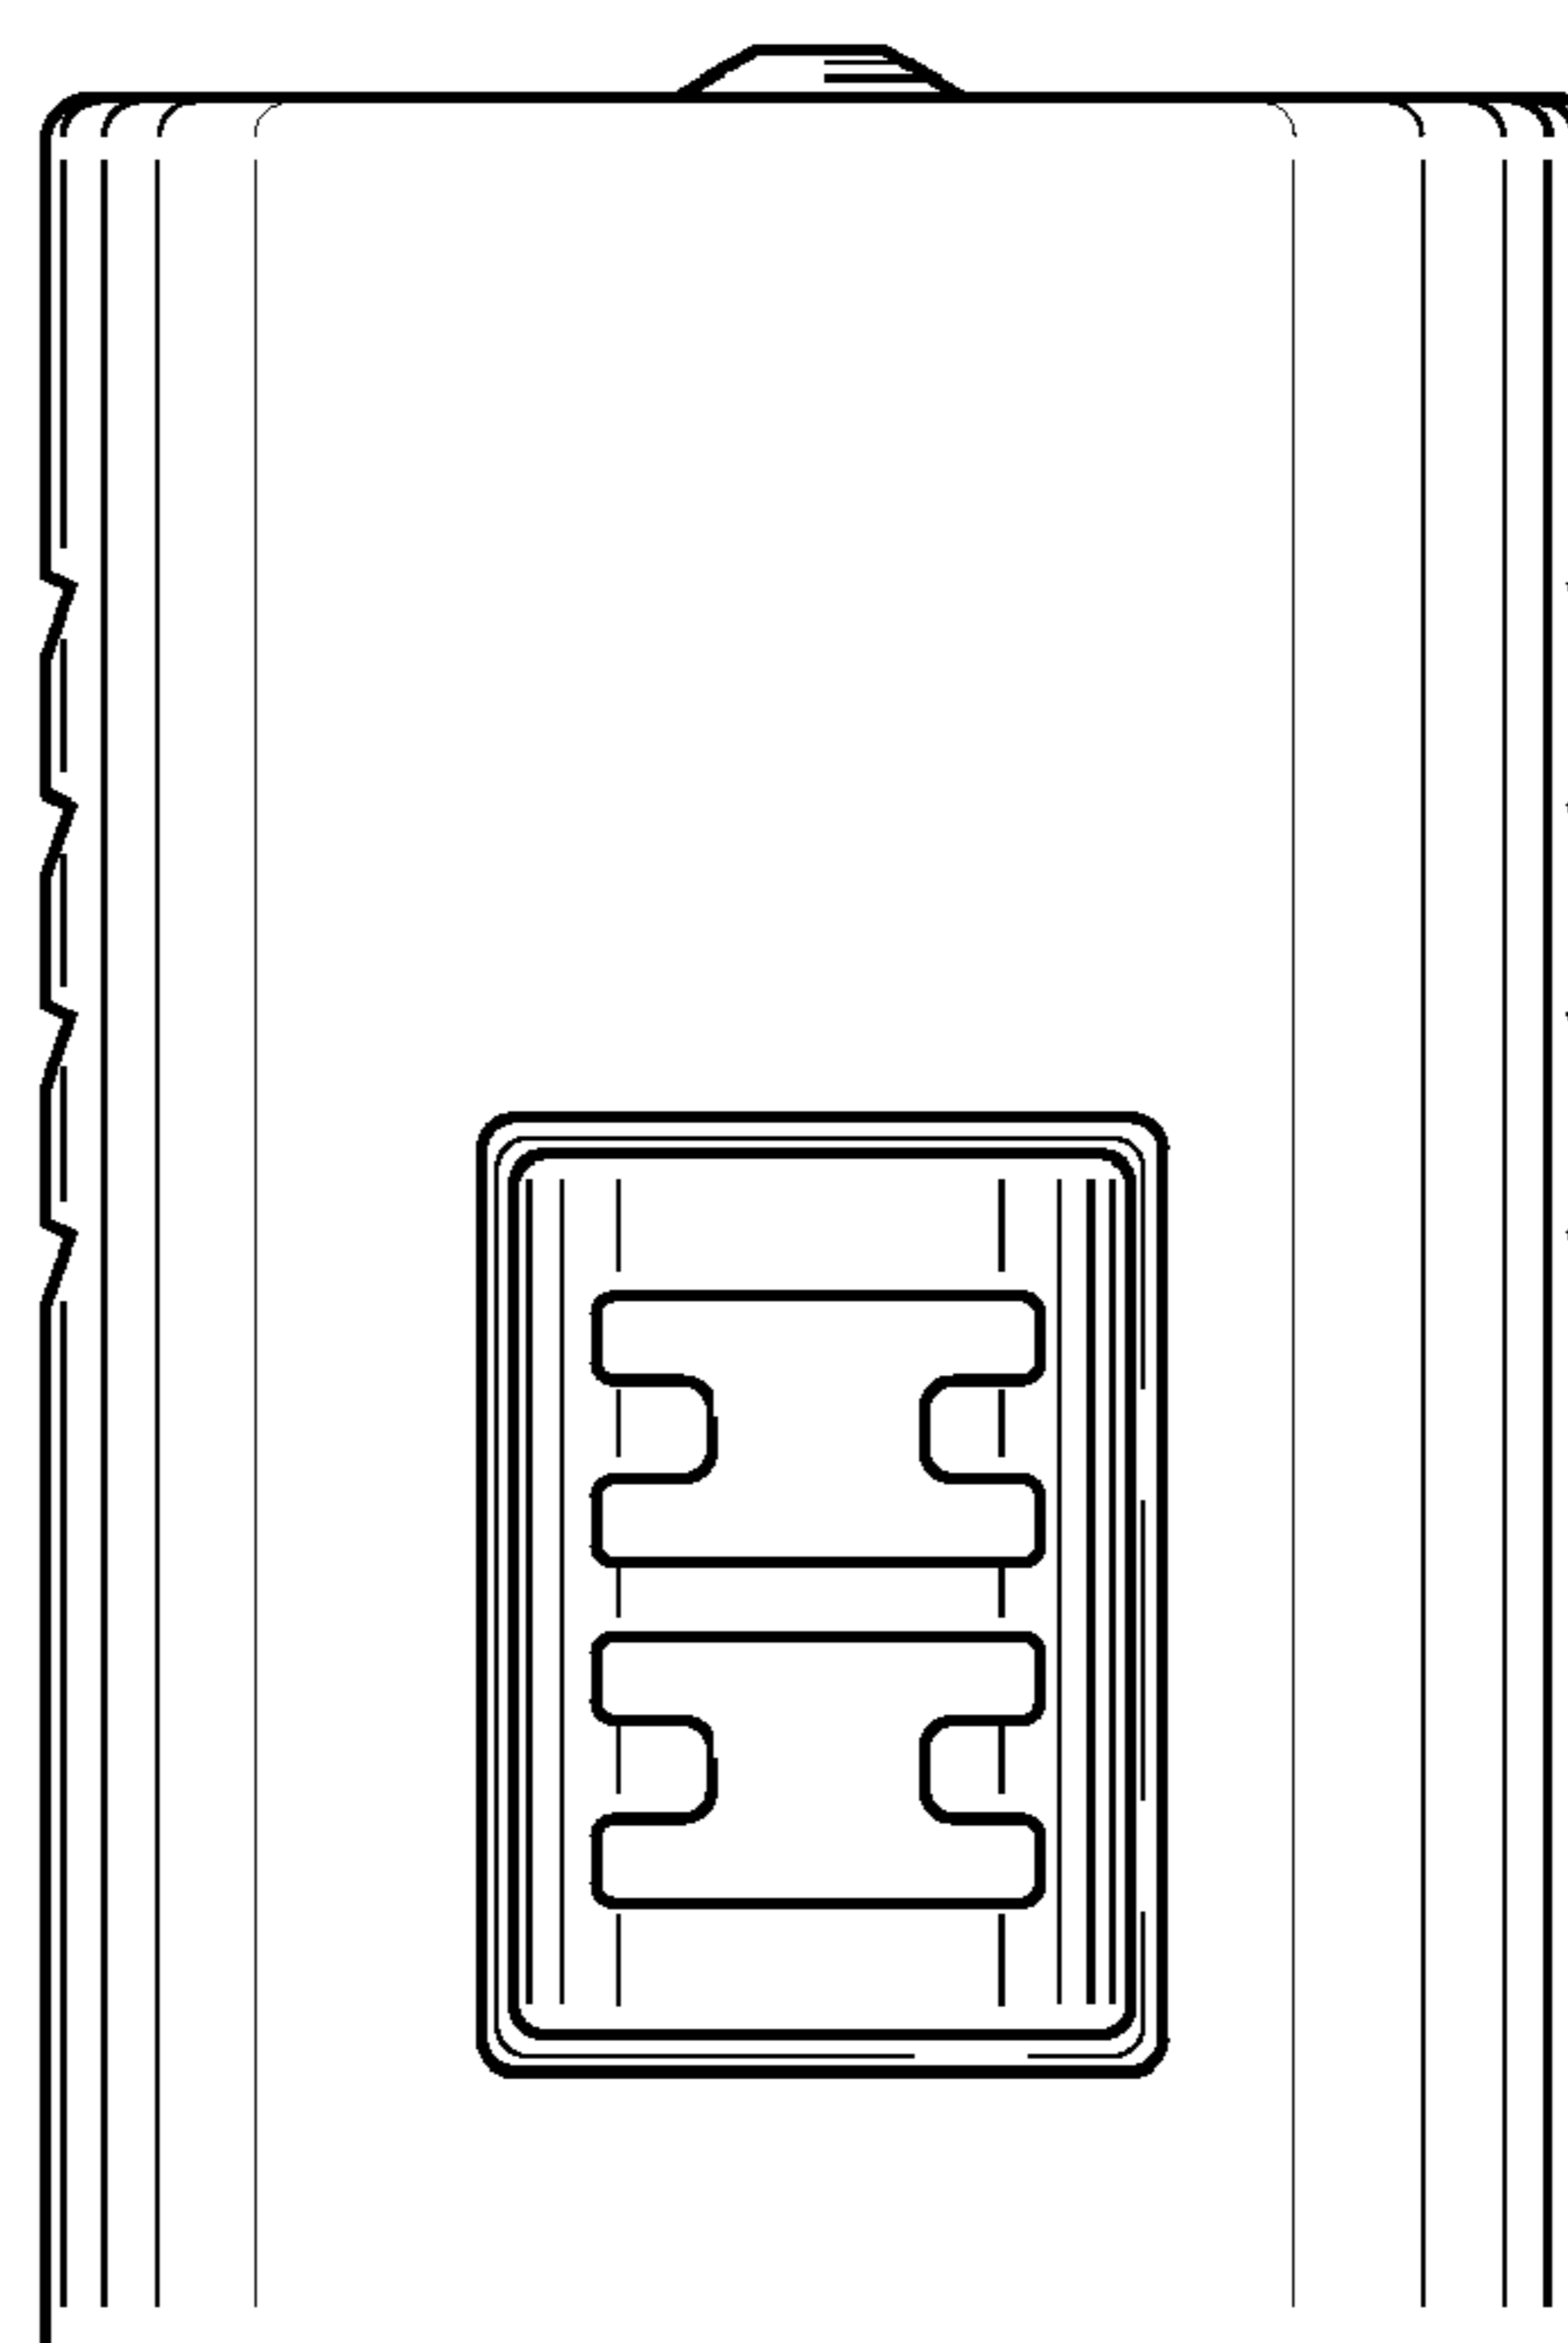

FIG. 10
- FIG. 10 is an isometric view, from the bottom and one side, of the housing;